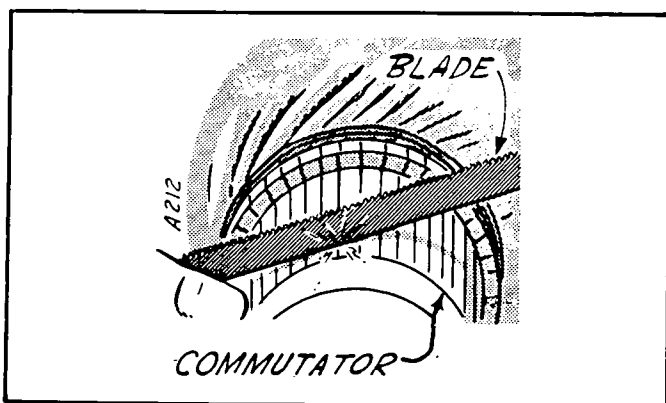

FIGURE 10. TESTING FOR AN OPEN CIRCUIT
1. Place the armature in the growler which is connected to alternating current. Rub a smooth steel blade (back edge of a hacksaw blade) across the segments of the commutator (see Figure 10).